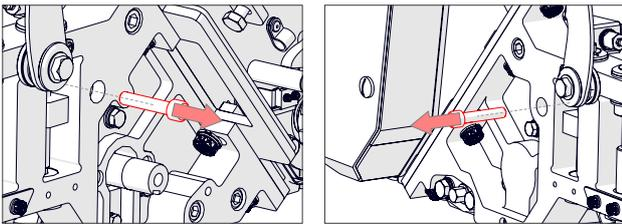
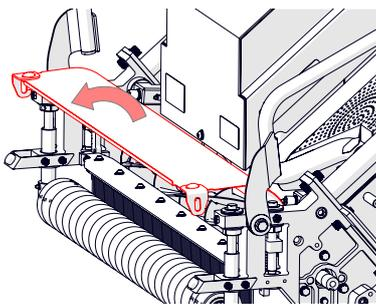

Fig. 16D - Remove the deflector plate bolts
Fig. 16E - Slide the deflector plate out
5. Remove the 2 x M10 cap head bolts from each side of the machine securing the deflector plate [8 mm hex key] (Fig. 16D). Remove the two bolts and slide the deflector out from the top (Fig. 16E).